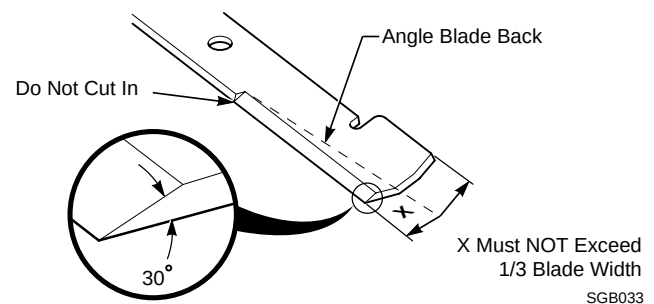

Figure 7-6 Blade Sharpening
1. Sharpen the cutting edge at the same bevel as the original. See Figure 7-6. Sharpen only the top of the cutting edge to maintain sharpness.